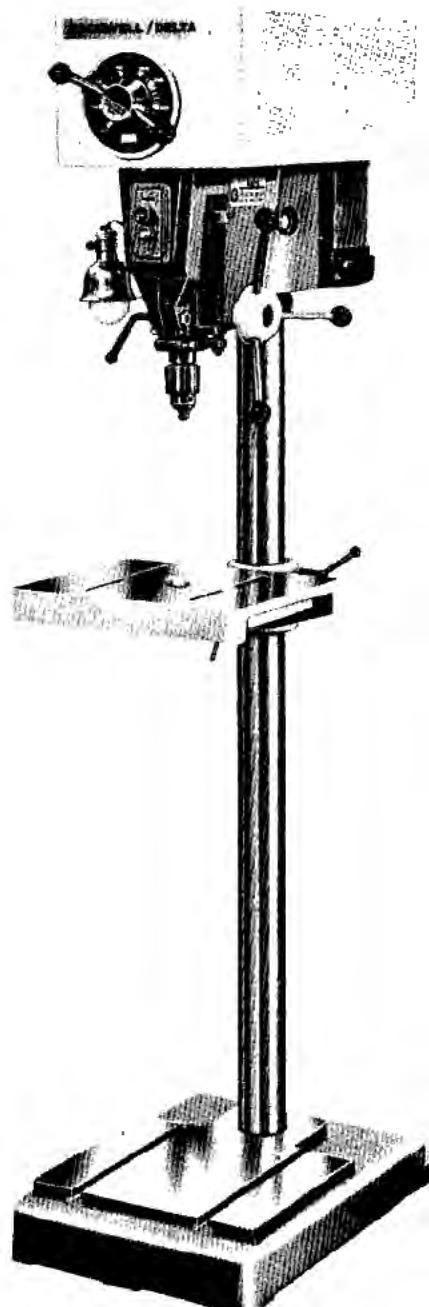
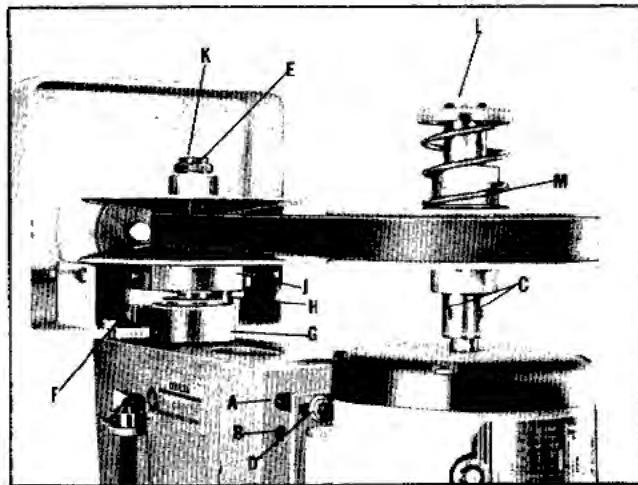

Fig. 2
Fig. 8
The pilot wheel (A) Fig. 2, for Variable Speed Drive, should not be turned except when the motor is running, to avoid putting unnecessary strain on the variable speed drive belt and variable speed drive pulley assembly. The pilot wheel is turned clockwise to make the drill press run faster, and counter-clockwise to slow it down.
While changing speeds the pointer (B) Fig. 2, will indicate the speed of the drill press.
Similar drag plugs or "dampeners" are provided in the spindle pulley and motor pulley assemblies, and are adjusted at the factory. After long service, it may be desirable to increase the pressure on the drag plugs by tightening set screws (A) Fig. 3A for the spindle pulley, and (M) Fig. 8 for the motor pulley. This adjustment does not have to be made, unless normal wear has resulted in noisy operation of the pulleys.
3. If you are installing a NEMA 56 Frame Motor, it is necessary to remove the two upper motor mounting studs (A) Fig. 8, and reposition them in the holes (B) directly below.
4. Make sure the key is in place and tighten the two set screws (C) against the motor shaft.
5. Place the motor on the four motor mounting studs (A) Fig. 8, and install belt.
6. Visually line up the motor shaft so that it is in parallel alignment with the spindle. If the motor must be tilted to the front or rear, it is necessary to loosen the four nuts (D) and move studs (A) in or out as desired until the motor shaft is parallel with the spindle. Then tighten the four nuts (D) Fig. 8.
8. If the motor must be moved further away from the spindle, back off each of the four nuts (D) and back off the four studs (A) an equal number of turns against the motor base plate.
9. If the motor must be moved forward turn in each of the four studs (A) an equal number of turns and tighten nuts (D) against the motor base plate.
10. The spindle nut (E) Fig. 8, should then be adjusted so that the distance from the top of the nut to the top of the spindle is $1/4$ to $5/16"$.
11. TO CALIBRATE THE SPINDLE SPEED turn the drill press on and turn pilot wheel clockwise. When the outside circumference of the belt extends $1/32"$ beyond the outside circumference of the motor pulley, turn off the power, loosen locknut (G) Fig. 8, and adjust the stop screw (H) until it is bearing against the bottom of the bearing retainer (J). With a 1725 rpm motor the speed of the drill press will be approximately 4700 rpm. With a 1140 rpm motor the speed of the drill press will be approximately 3100 rpm. Now set the pointer (B) Fig. 2,
to the corresponding speed on the spindle speed chart by unscrewing and removing the pilot wheel hand levers (A) Fig. 2, and loosening the set screws located directly under the hand levers. The hub of the pilot wheel assembly can then be rotated until the pointer points to the corresponding speed on the spindle speed chart (B) Fig. 2. Then tighten the set screws and replace the pilot wheel hand levers (A) Fig. 2.
12. Turn the drill press on and rotate the pilot wheel counterclockwise until the pointer is pointing to the lowest rpm mark on the speed dial and turn off the drill press. Adjust the stop screw (F) Fig. 8, against the roller cam follower on the pilot wheel cam assembly. To adjust stop screw (F) Fig. 8, first loosen locknut (C) Fig. 2.
The pulleys should be lubricated weekly in the oil holes located at (K and L) Fig. 8. Oil the holes when the drill press is turned off. Then turn on the drill press and run the machine from low speed to high speed a few times.